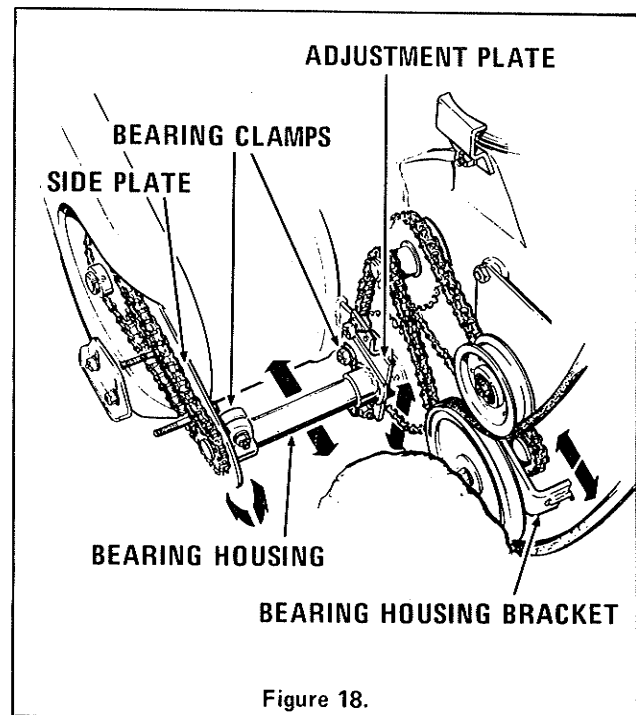

Figure 18.
3. To adjust the chain between the engine drive and the impeller shaft, loosen but do not remove the hardware holding the bearing housing bracket to the frame. Move the bearing housing bracket down and to the rear to achieve the proper chain tension. Re-tighten all hardware at this time. See Figure 18.